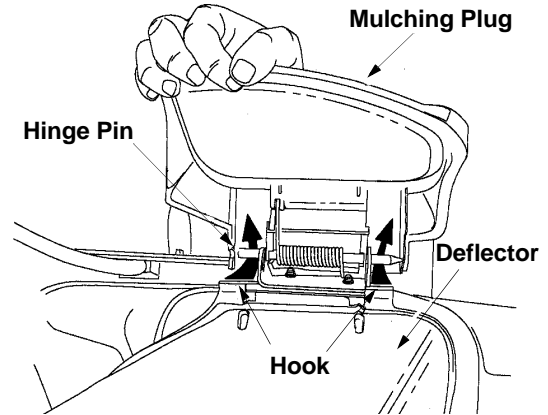

Figure 5
- Your mower has been shipped as a mulcher. To convert it to a side-discharge mower, lift the mulching plug. Slide the two hooks on the side-discharge deflector under the hinge pin on the mulching plug assembly. Lower the mulching plug. See Figure 5.